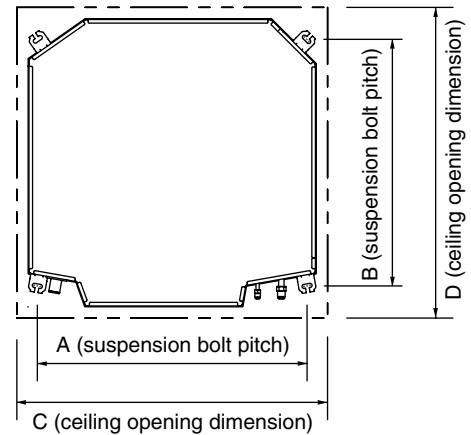

**Fig. 3-32**
(1) Fix the suspension bolts securely in the ceiling using the method shown in the diagrams (Figs. 3-32 and 3-33), by attaching them to the ceiling support structure, or by any other method that ensures that the unit will be securely and safely suspended.